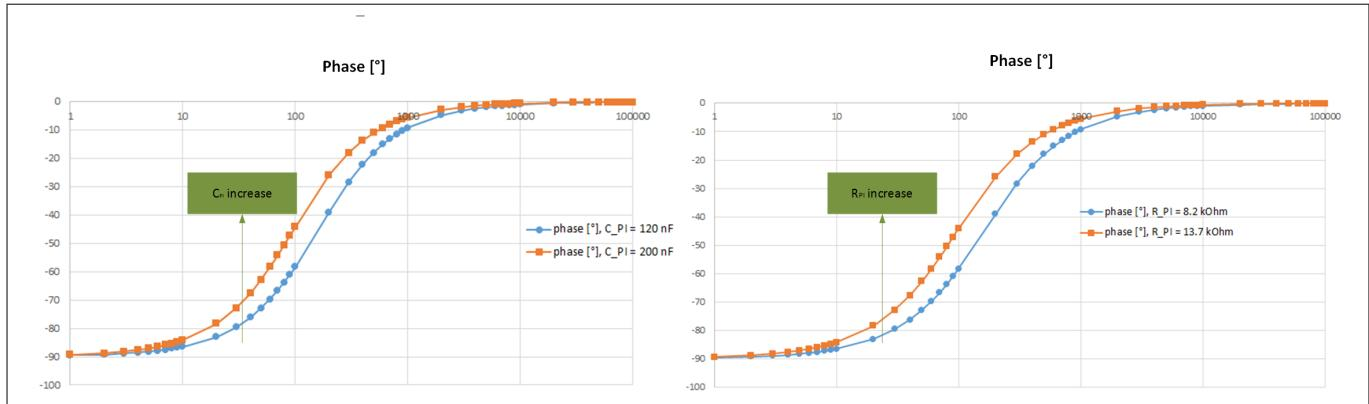
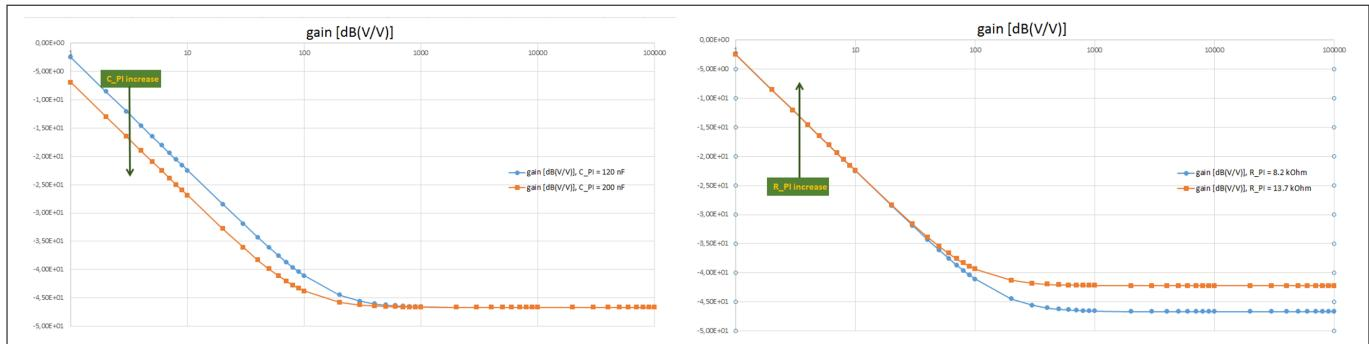

Figure 12 **Dependency of phase on R_{PI} , C_{PI}**
Figure 13 **Dependency of gain on R_{PI} , C_{PI}**
Figure 12 shows the dependency of the phase on modifications of C_{PI} and R_{PI} based on equation (1) of Equation 9. Figure 13 shows the dependency of the gain on modifications of C_{PI} and R_{PI} based on equation (2) of Equation 9. In all cases the parameter of choice is increased by 67 percent.